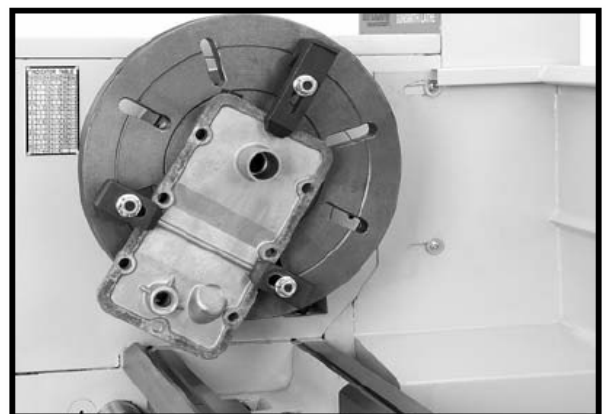

Figure 23
5. Clamp the workpiece at a minimum of three locations that are as close to being evenly spaced apart as possible as shown in Figure 23.